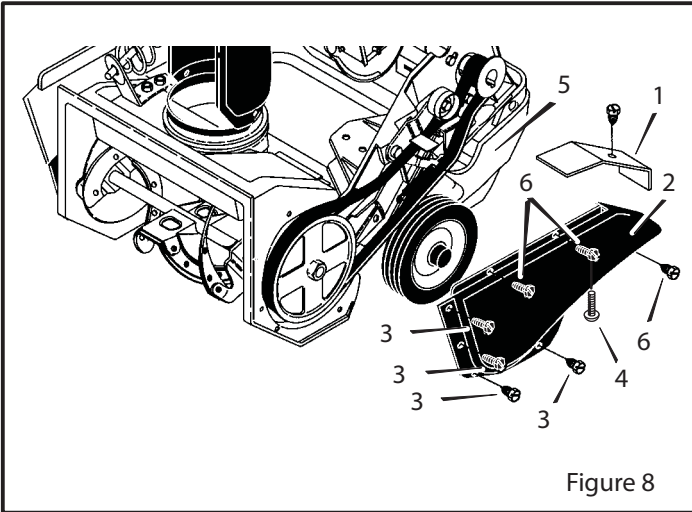

Figure 8
1. **(Figure 8)** If equipped, remove the heat shield (1) from the rear of the belt cover (2).
2. Remove the four bolts and nuts (3) holding the belt cover (2) to the auger housing.
3. Remove the one screw (4) holding the belt cover (2) to the bottom cover (5).
4. To remove, hold the bottom portion of the belt cover (2) and pull down and out.
5. To install the belt cover (2), reverse the above steps.